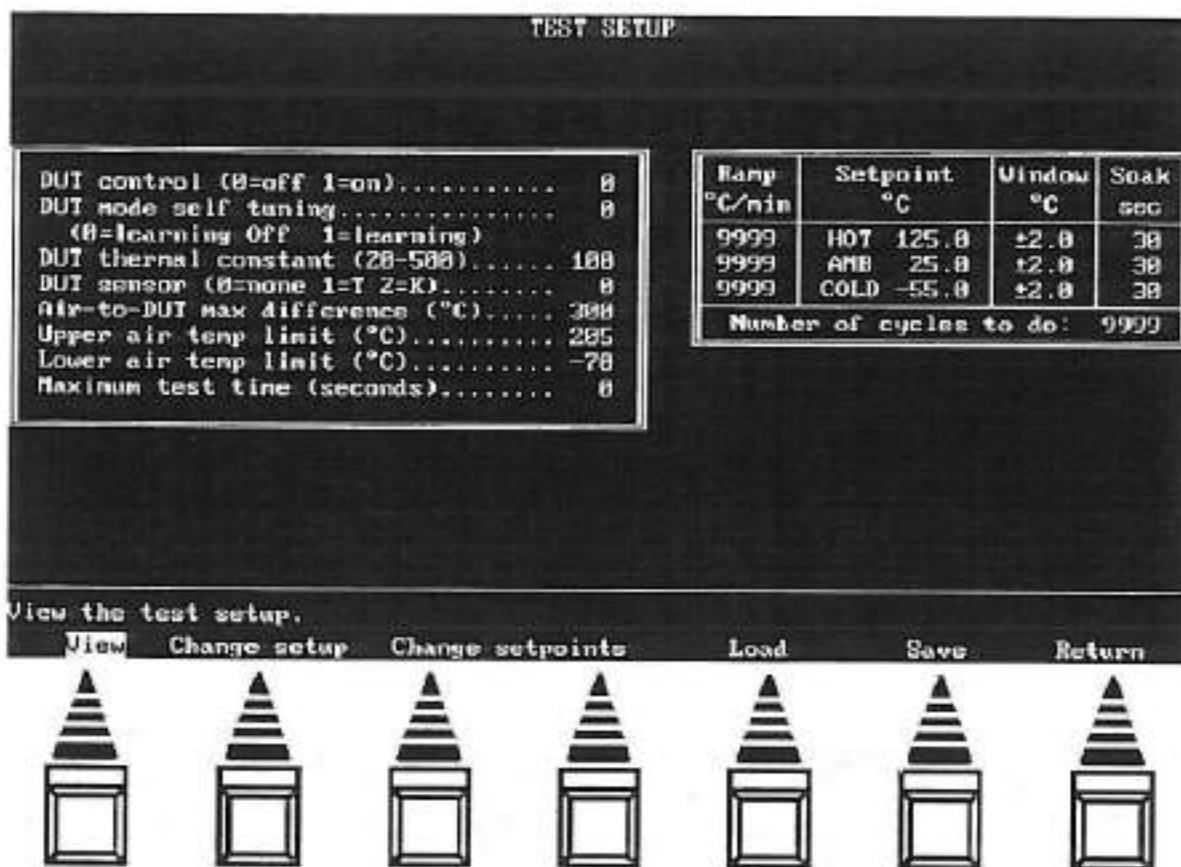
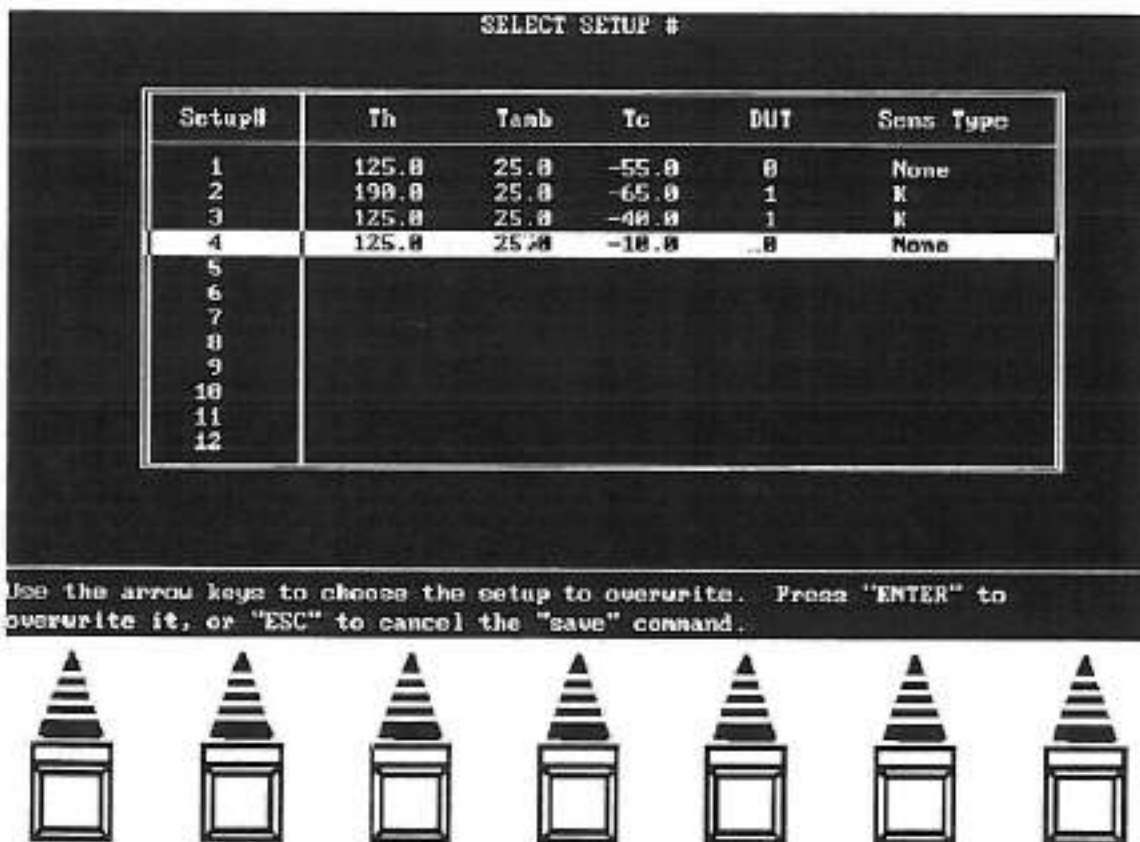
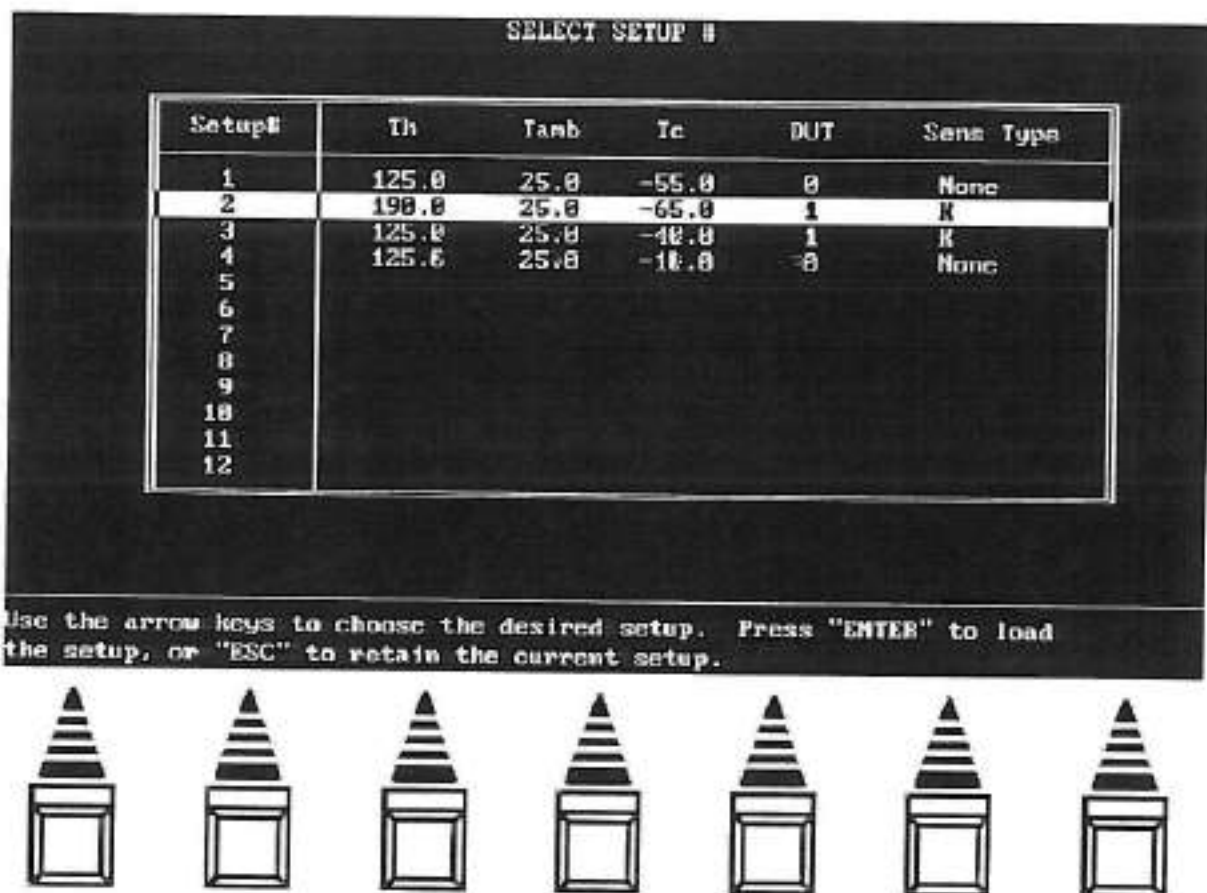

Figure 3-11. Operator Change Setup Screen
Figure 3-12. Operator Save Setup Screen
Figure 3-13. Operator Load Setup Screen
Setup: Accesses the *Test Change Setup Screen* (Figure 3-11). (Press **Return** function key on that screen to return to the *Operator Extended Screen*.)
In the Operator Mode, up to 12 programmed test setup files can be stored in the TP04010A. Each test setup file contains the system setup parameters and the three temperature setpoint parameters to allow a DUT to be tested under the desired HOT, AMB, and COLD temperature conditions. Different test setup files are programmed through the *Operator Change Setup Screen* (see Figure 3-11). This figure shows the default parameters as programmed by the factory. From this base, or later test setup files, a new file can be programmed by changing the system setup parameters and the temperature setpoint parameters for a particular test. This combination of parameters is then saved (stored in memory) with a unique setup number from 1 through 12 on the *Operator Save Setup Screen* (Figure 3-12). Any one of the up to 12 setup files can be selected and loaded from the *Operator Load Setup Screen* (Figure 3-13) for controlling the TP04010A.
The selections at the bottom of the *Operator Change Setup Screen* (see Figure 3-11) are summarized below. Press the OCM function key directly below a desired selection to activate it.
Load: Accesses the *Operator Load Setup Screen* (Figure 3-13). See paragraph entitled "Loading a New Test Setup" for details.
Save: Accesses the *Operator Save Setup Screen* (see Figure 3-12). See paragraph entitled "Changing Temperature Setpoint Parameters" for details.
1. Select the **Change setup** function on the *Operator Change Setup Screen* (refer to Figure 3-11) with the OCM function key to activate.
3. Check that the **DUT control** is set for the desired type, air (0) or direct DUT control (1). If direct DUT control is chosen, make sure the proper **DUT sensor** is selected, (1) or (2). A new
1. Select the **Change setpoints** function on the *Operator Change Setup Screen* (refer to Figure 3-11) with the OCM function key to activate.
4. Select the **Save** function on the *Operator Change Setup Screen* with the OCM function key to access the *Operator Save Setup Screen* (see Figure 3-12).
1. Select the **Load** function on the *Operator Change Setup Screen* (refer to Figure 3-12) with the OCM function key to access the *Operator Load Setup Screen* (see Figure 3-13).
2. Use the up/down arrow keys to select the numbered line (1 to 12) with the desired test setup file to be used next. (Figure 3-13 shows an example of the *Operator Load Setup Screen* with four saved test setups and Setup #2 highlighted.)